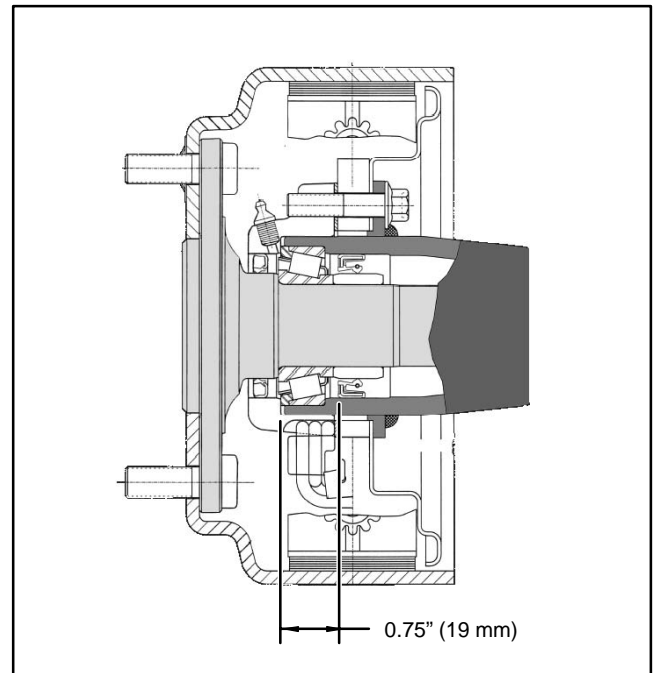

Figure 22
4. Coat a new inner shaft seal with a thin film of oil. Install the new seal to a depth of 0.75 in. (19 mm) into the housing (Fig. 22).